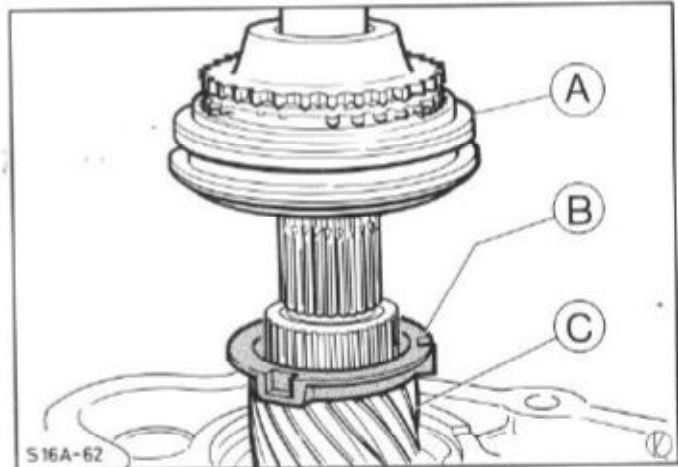

Fig.131. Slide on 5th gear cog.
33. Slide on 5th gear cog with the helical teeth towards the bearing, fit blocker bar retainer and synchroniser, Fig.131.